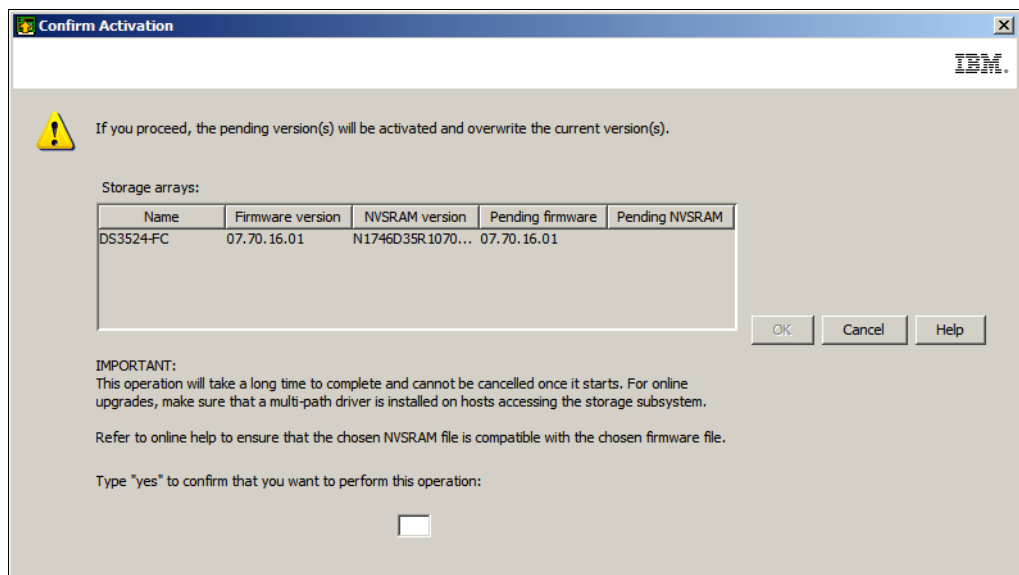

Figure 14-50 Confirm activation
- e. Click the **Activate** button to activate the pending firmware. The window shown in Figure 14-50 will appear.